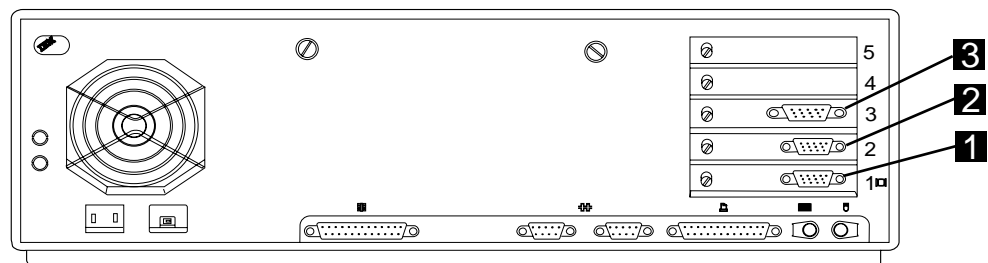

Figure 1-86. Slot Allocations
17. ____ **Plug** the external cables in the following slots (see Figure 1-86):
- Slot 1 : **1** XGA* non-interlaced (NI) card, basic.